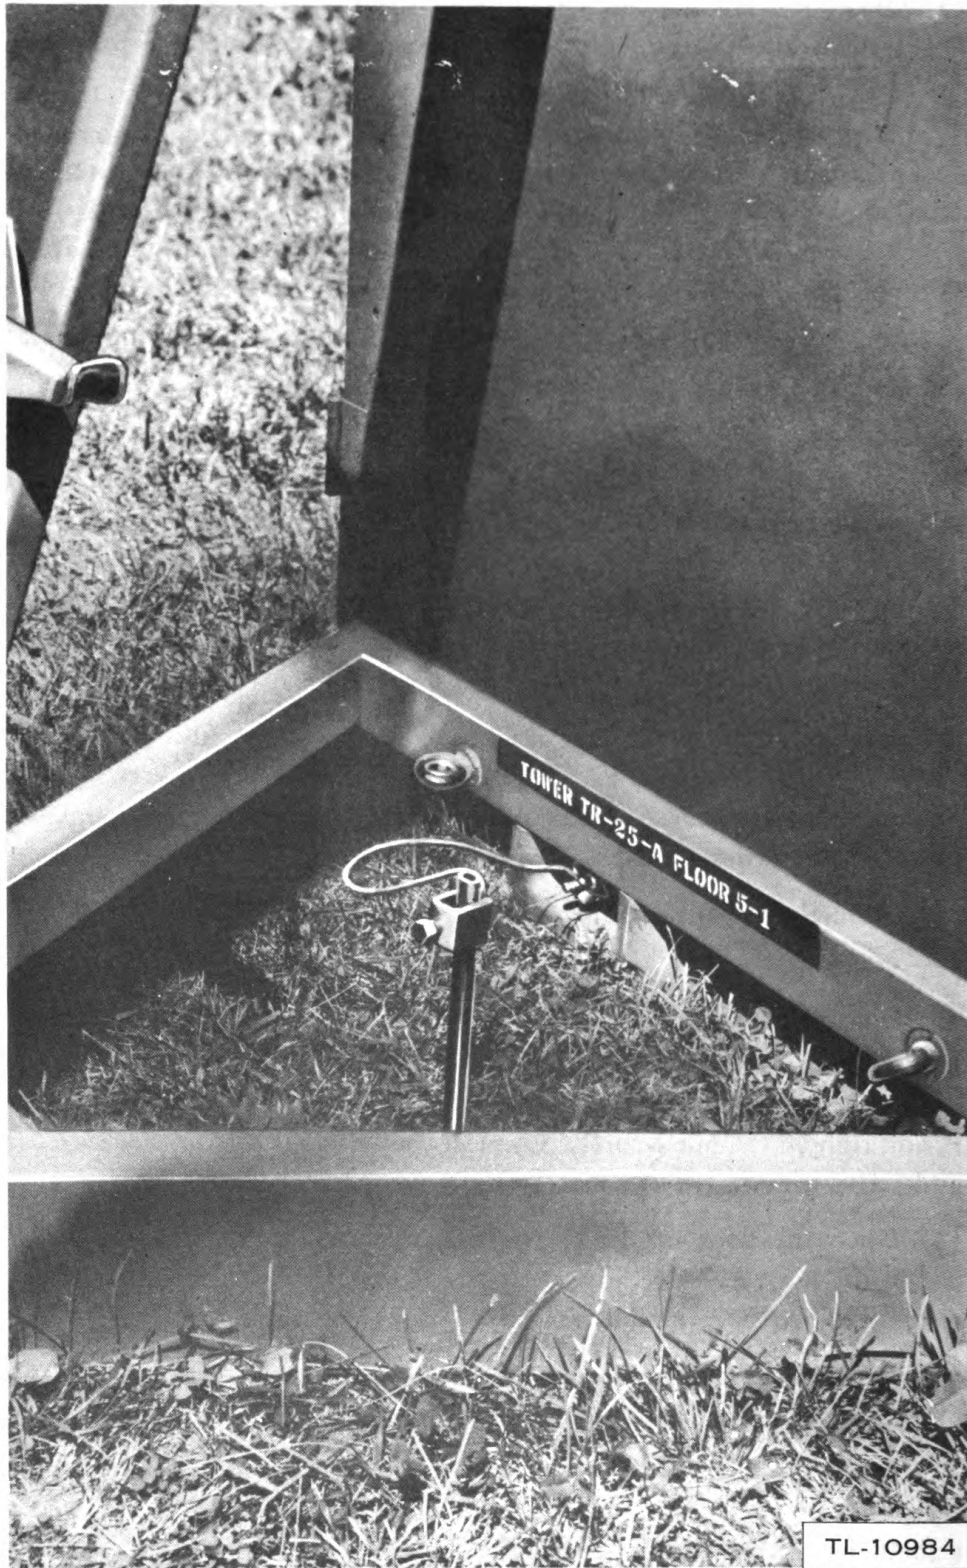

Figure 25. Ground connection.
(9) If a field telephone line is used, connect the line to the two terminals on one side of the shelter near the ground. Make sure that these knurled nuts are tightened against the skinned ends of the telephone line after the connections have been made.
(10) Drive Ground Rod GP-28, packed in Chest CH-202-A, into the ground near one of the shelter sides (fig. 25). A ground connection is provided on each of three sides of the shelter, and the rod may be driven near any of these terminals. Allow at least 6 inches of the ground rod to project above the ground and fasten the ground clamp near the top of the rod. The ground clamp is packed in Chest CH-128-A. Connect a length of No. 14, or larger, copper wire between the ground clamp and the ground connection on the tower base.